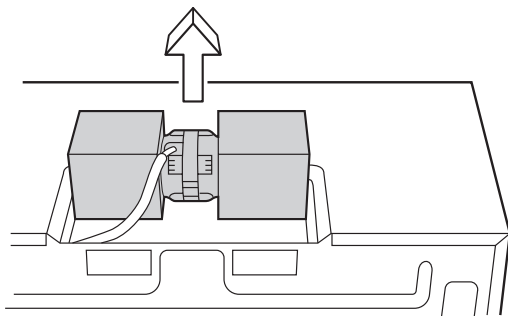

Figure 12
2. Lift Hood Fan Unit carefully and slip wires out of cavity. See Figure 12. Caution: Do not pull or stretch hood fan wiring.